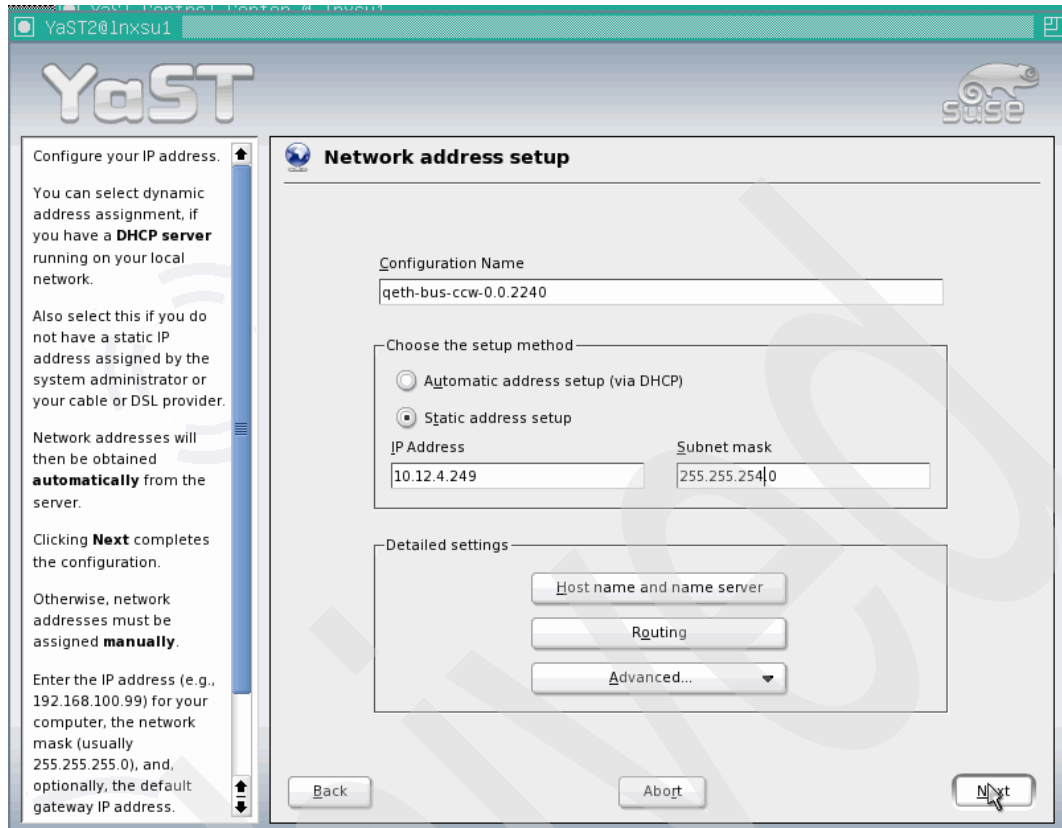

Figure 6-7 IP configuration panel for the QDIO Layer 2 device
4. In the subsequent panel we added the IP configuration details, as shown in Figure 6-7 on page 132.